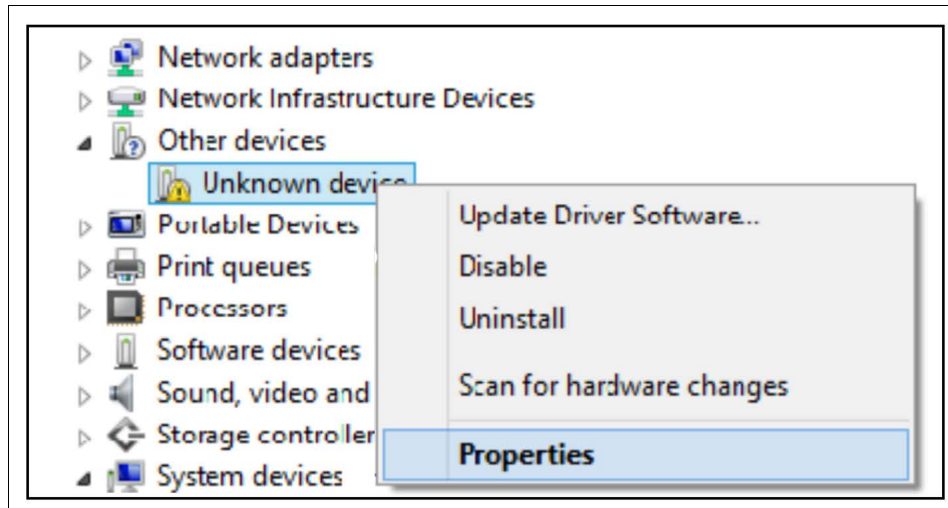

Figure 13. Laptop Device Manager
- b. In the Device Manager screen click the expand arrow (>) next to **Ports (COM & LPT)**. If Ports (COM & LPT) is not showing in 'Device Manager', look for unknown devices or a yellow exclamation point (see Figure 13).